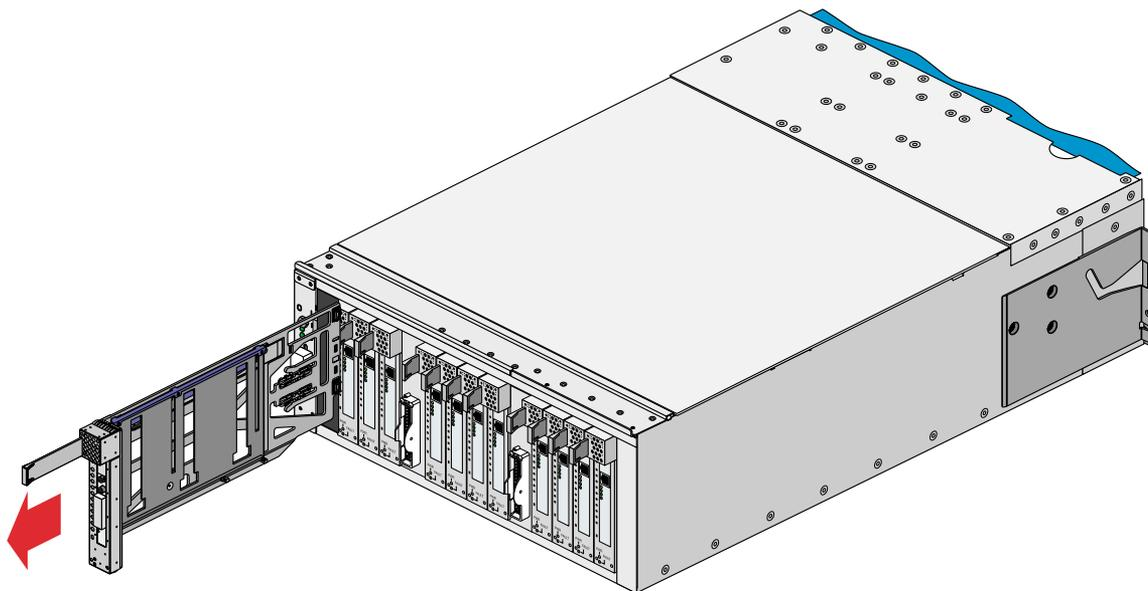

Figure 14-1 Removing Card Carrier
3. To extract a PCI card or empty PCI card carrier from a slot, pull the handle on the selected card carrier straight out, as shown in Figure 14-1.